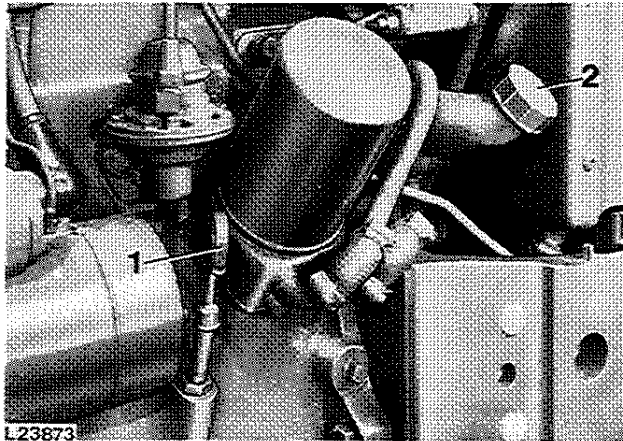

Fig. 1 — Engine Oil Dipstick and Filler Cap
1. Pull out dipstick 1 (fig. 1) and check oil level.